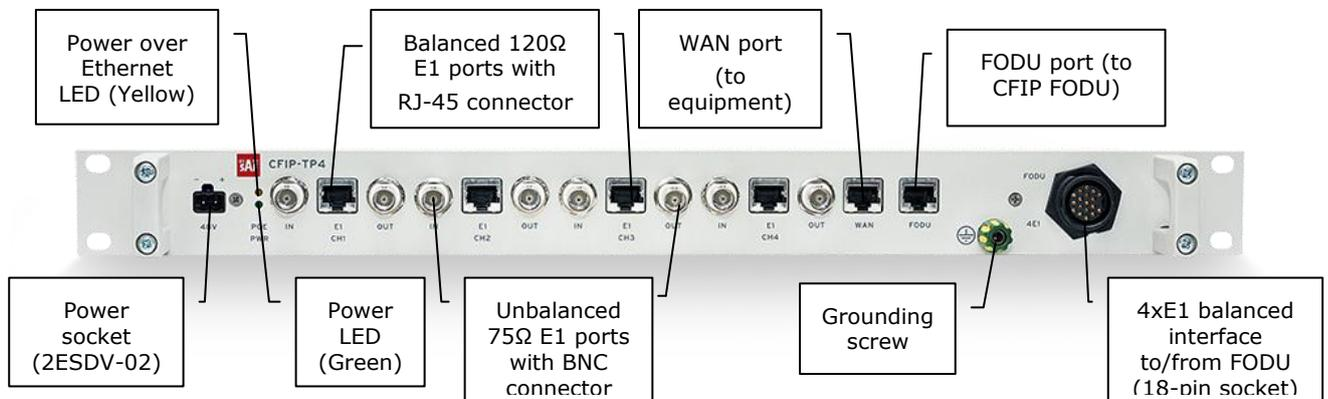

Figure 2.9. Termination panel for the HYPERCABLE CFIP FODU; the E1 port numbers on the front panel correspond to the HYPERCABLE CFIP FODU port numbering.
- **E1 ports:** the unit passes four balanced E1 signals coming from the FODU to the termination panel, providing four unbalanced 75Ω E1 ports with the BNC connector or four balanced 120Ω E1 ports with the RJ-45 socket (see **Figure 2.9.** for details).